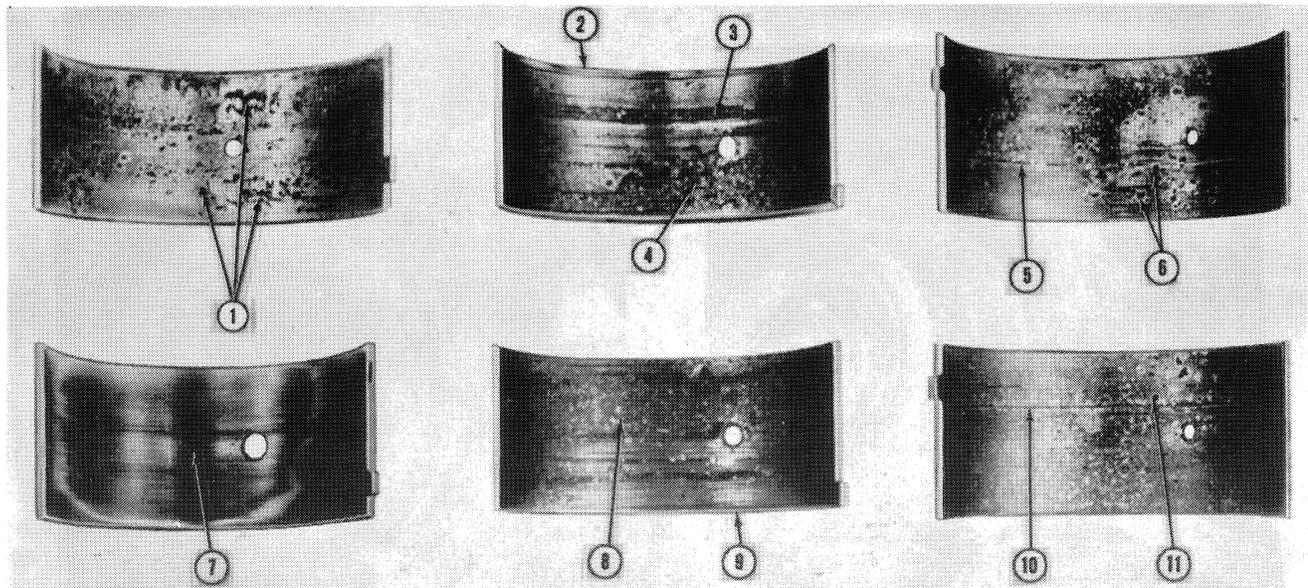

Figure 38
1. If the bearing liners are scored, have the flash overlay wiped out, show fatigue failure, or are badly scratched, as shown in Figure 38, install new bearing liners.